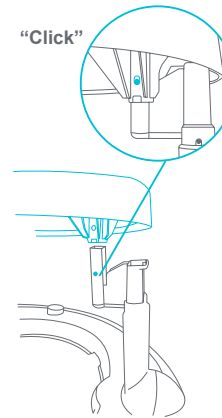

Fig. 2b
- Insert the tabletop into all 3 legs (Fig. 2b).